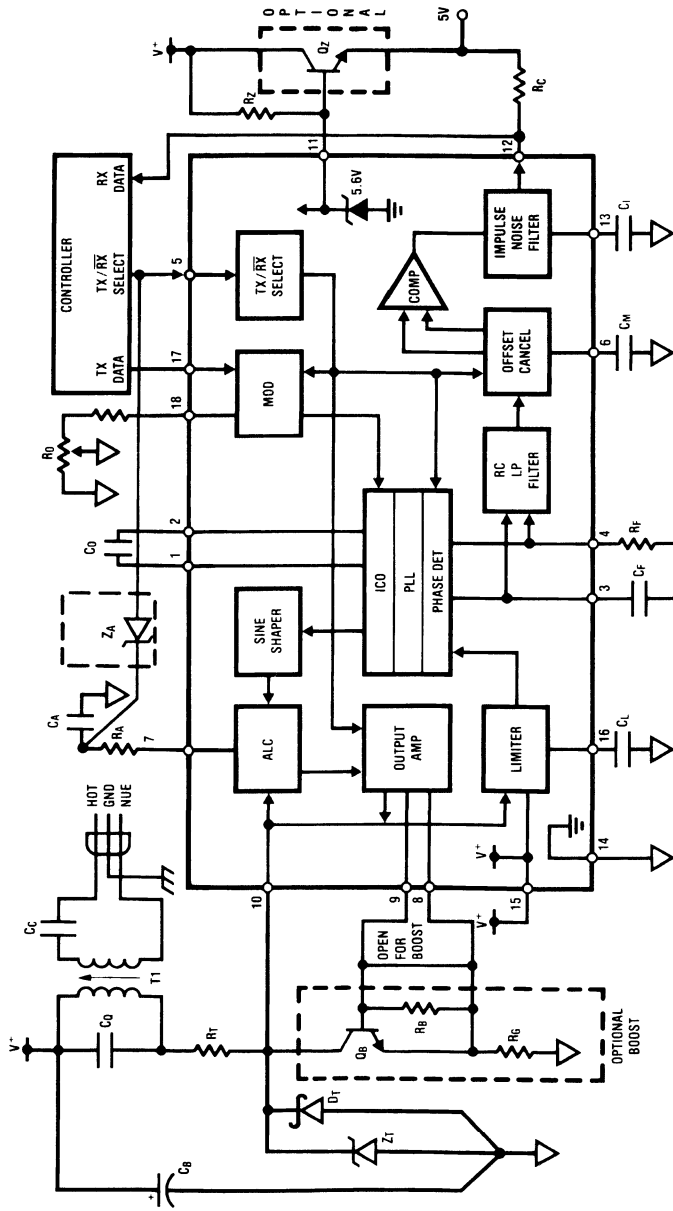

FIGURE 4. Block diagram of a CCT system with the boost and 5V supply options shown in dashed boxes
The BI-LINE™ chip serves as a power line interface in the carrier-current transceiver (CCT) system of *Figure 3*. *Figure 4* shows the interface circuit now discussed. The controller may select either the transmit (TX) or receive (RX) mode. Serial data from the controller is used to generate a FSK-modulated 50 to 300 kHz carrier on the line in the TX mode. In the RX mode line signal passes through the coupling transformer into the PLL-based receiver. The recreated serial bit stream drives the controller.
With the IC in the TX mode (pin 5 a logic high), baseband data to 5 kHz drive the modulator's Data In pin to generate a switched 0.9781/1.0221 control current to drive the low TC, triangle-wave, current-controlled oscillator to $\pm 2.2\%$ deviation. The tri-wave passes through a differential attenuator and sine shaper which deliver a current sinusoid through an automatic level control (ALC) circuit to the gain of 200 current output amplifier. Drive current from the Carrier I/O develops a voltage swing on T_1 's (*Figure 4*) resonant tank proportional to line impedance, then passes through the step-down transformer and coupling capacitor C_C onto the line. Progressively smaller line impedances cause reduced signal swing, but never clipping—thus avoiding potential radio frequency interference. When large line impedances threaten to allow excessive output swing on pin 10, the ALC shuts current away from the output amplifier, holding the voltage swing constant and within the amp's compliance limit. The amplifier is stable with a load of any magnitude or phase angle.
FIGURE 5. A quick explanation of the external component function using the circuit of Figure 4. Values given are for $V^+ = 18$ V, $F_O = 125$ kHz, $f_{DATA} = 360$ Baud (180 Hz), using a 115 V 60 Hz power line
Assuming the circuit of Figure 4 is used with something other than the nominal 125 kHz carrier frequency, 180 Hz data rate, 18V supply voltage, etcetera, the component values listed in Figure 5 will need changing. This section will help direct the CCT designer in finding the required component values with emphasis placed on look-up tables and charts. It is assumed that the designer has selected values for carrier center frequency, F_O ; data rate, f_{DATA} ; supply voltage, V^+ ; power line voltage, V_L ; and power line frequency, F_L . If one or more of those parameters is not defined, one may read the data sheet and make an educated guess.